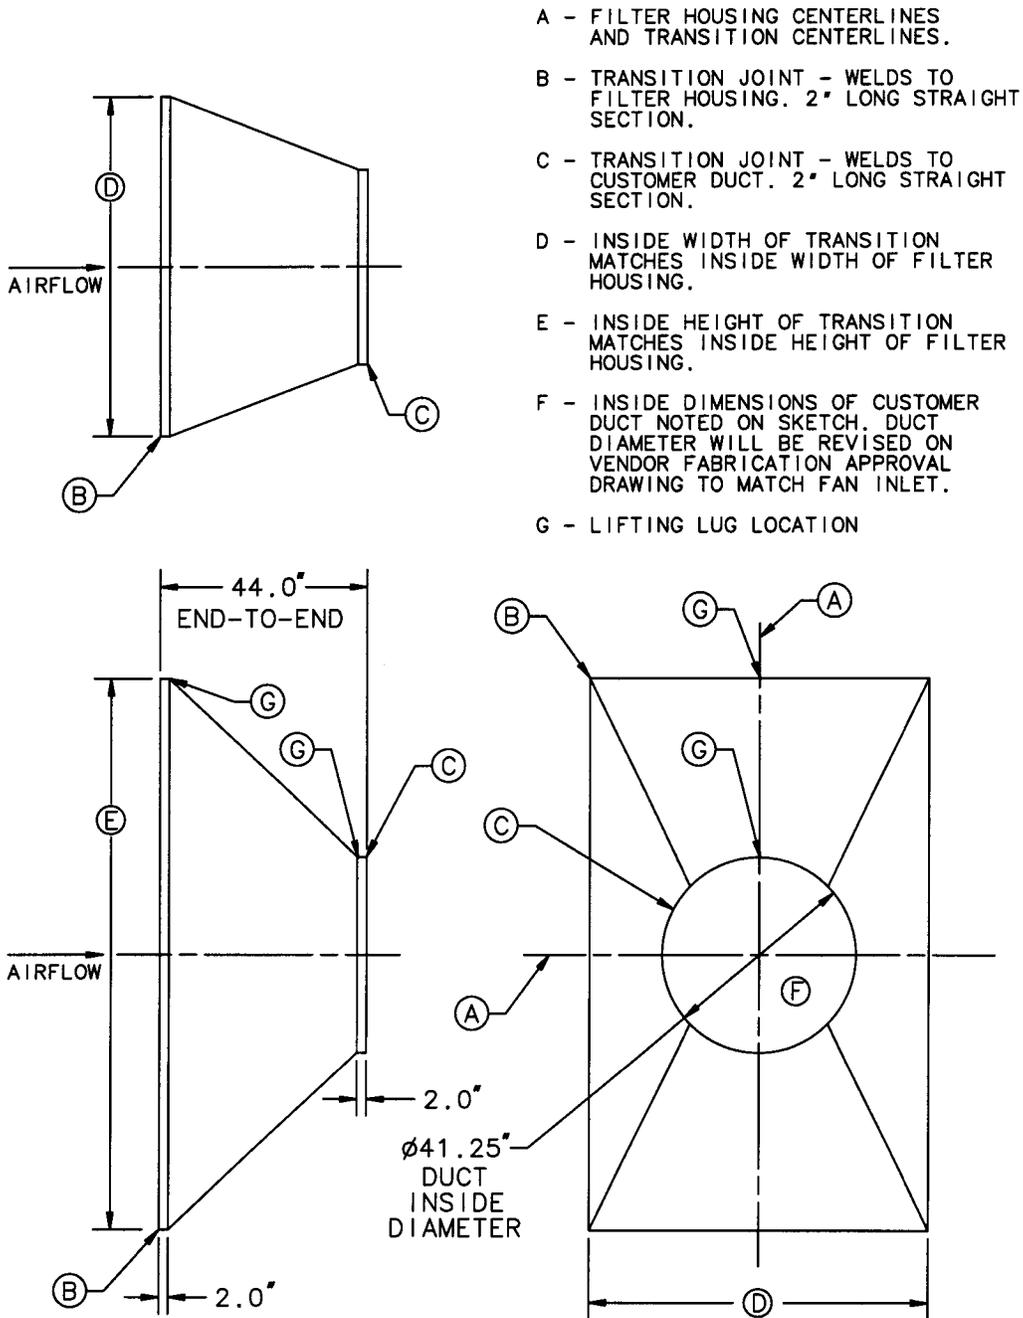

Figure 2. Filter housing welded outlet transition.
- 8.9 Dimensions for the outlet transition are specified in Figure 2.
13) Figure 2. Filter housing welded outlet transition The inside diameter for the outlet duct on the outlet transition (Item "F" in Figure 2) increases from 41.25 inches to 52 inches.
- 13) Figure 2. Filter housing welded outlet transition The note on this figure states that the outlet duct diameter will be revised on the vendor fabrication approval drawing. Greg checked with the factory and told me this was ok. He quoted you a "no charge" for increasing this diameter. Let me know if you need to specify the diameter when placing the order. Otherwise, I'll note it on the fabrication approval drawing.